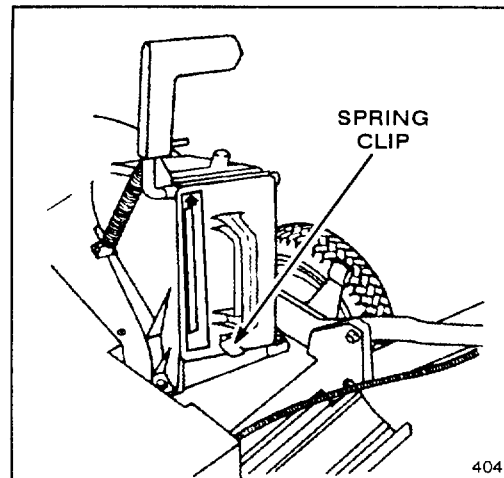

Figure 6
3. Push the plug all the way in until the spring clip on the bottom of the plug clicks into place, locking the plug securely into the discharge tunnel (Fig. 6). Release discharge door handle to lock top of plug.